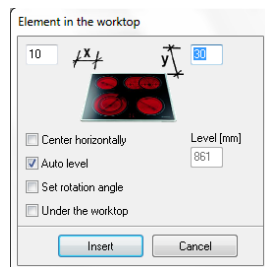

Fig. 249 – Element on a worktop window
- the **Element in the worktop** dialog is displayed (Fig. 249), in which insertion parameters for a model can be set, such as: